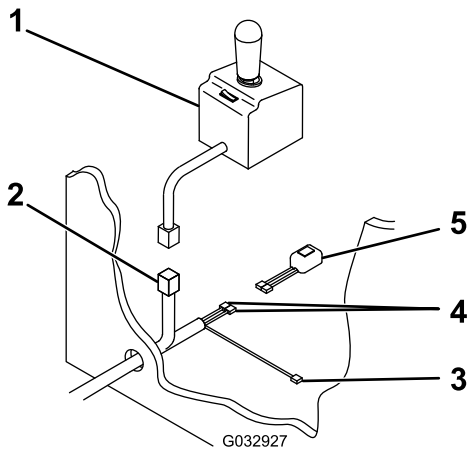

Figure 17
- Pull the plow controller connector, black/red wire, and 2 black wires into the vehicle cab through the hole in the firewall (Figure 17).
12. Connect the 2 black wires to the headlight toggle switch (Figure 17).